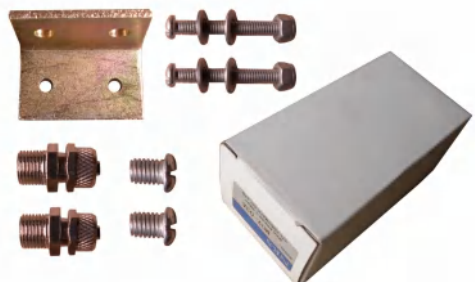

Fig.13
8. Check the parts of the parts bag according to the parts bag list (See Fig. 13).